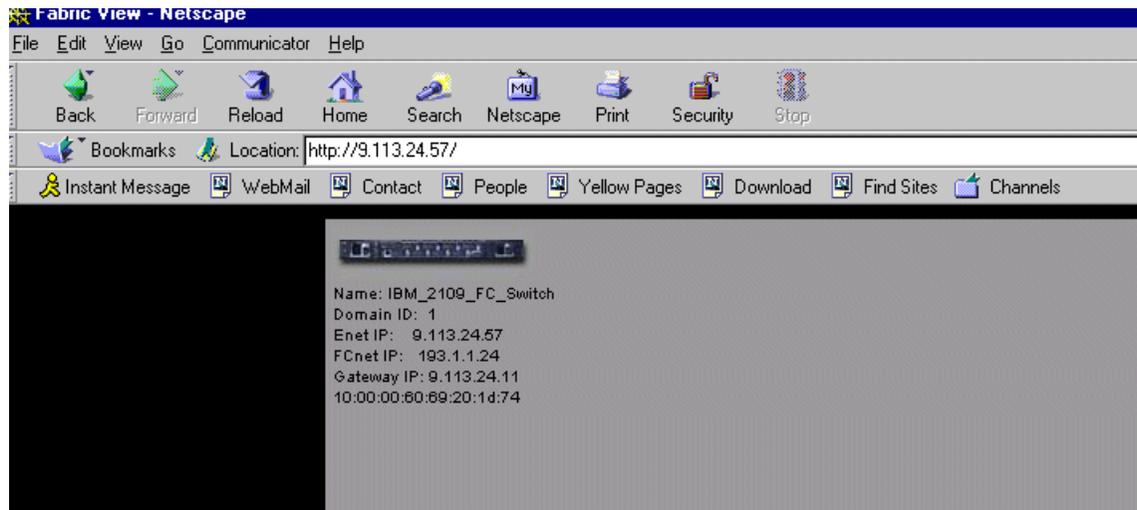

Figure 133. Fabric view
1. We started a Java-enabled Web browser and entered a switch name or IP address in the Location/Address field. We got a fabric view similar to that shown in Figure 133.